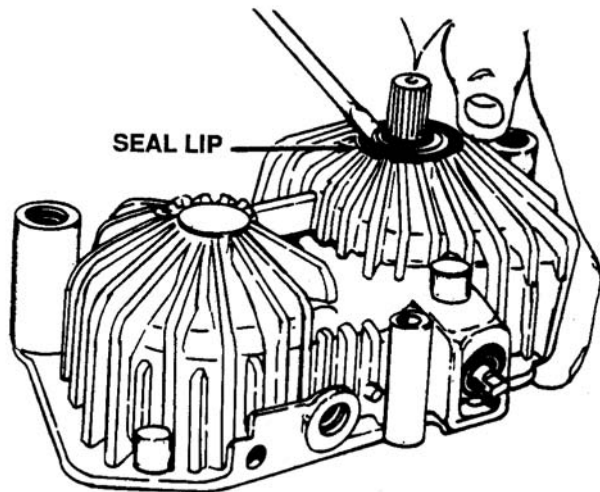

Figure 6-25. Oil Seal Removal
- b. Puncture oil seal and pry it out with screwdriver. Take care not to damage the shaft and housing. See Figure 6-25.